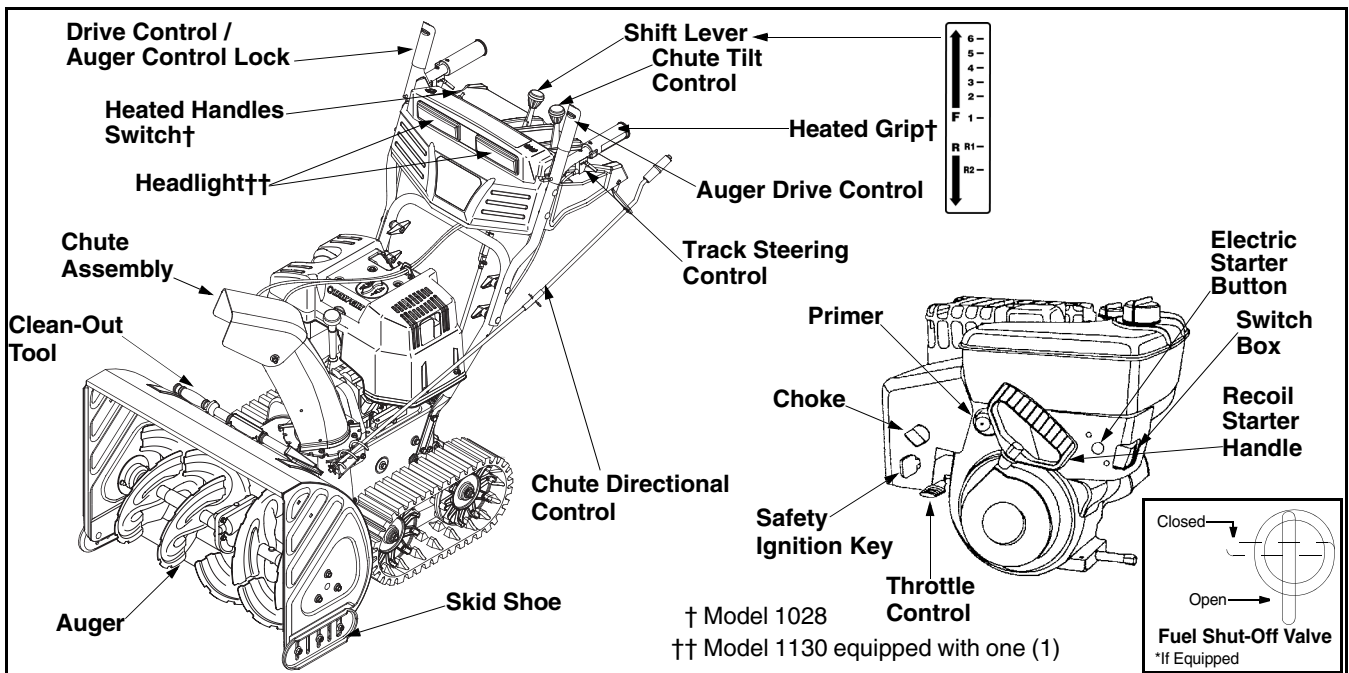

Figure 5
The drive control is located on the right handle. Squeeze the drive control to engage the wheel drive. Release to stop. See Figure 5.
The auger drive control is located on the left handle. Squeeze the control grip to engage the augers. Release to stop the snow throwing action. (Drive control must also be released.) See Figure 5.
The distance snow is thrown can be changed by adjusting the angle of the upper chute. Move the chute tilt control forward to decrease the distance, and backwards to increase distance. See Figure 5.
The shift lever is located in the center of the handle panel and is used to determine both ground speed and direction of travel. It can be moved into any of eight positions. See Figure 5.
The chute directional control is located on left side of the snow thrower. See Figure 5.
This switch is located on the right side of the snow thrower dash panel. To activate the heated handles, toggle the switch to the right to generate heat within the handle grips. Toggle the switch to the left to the OFF position after using the snow thrower. See Figure 5.
The left and right track steering controls are located on the underside of the handles and they are used to assist in steering the snow thrower. Squeeze the right track control when turning right, squeeze the left control when turning left. Operate your snow thrower in open areas until you become familiar with these controls. See Figure 5.
The throttle control is located on the engine. It regulates the speed of the engine and will shut off the engine when pushed down completely. See Figure 5.
On models so equipped, the fuel shut-off valve, located under fuel tank, controls fuel-flow from the fuel tank to the engine. See Figure 5.
The safety ignition key must be fully inserted and snapped in place before the unit will start. Remove the ignition key to prevent unauthorized use of equipment. See Figure 5.
- Move throttle control up to FAST position. Insert ignition key into slot and snap in place. See Figure 5. Be certain it snaps into place. **Do not turn key.**